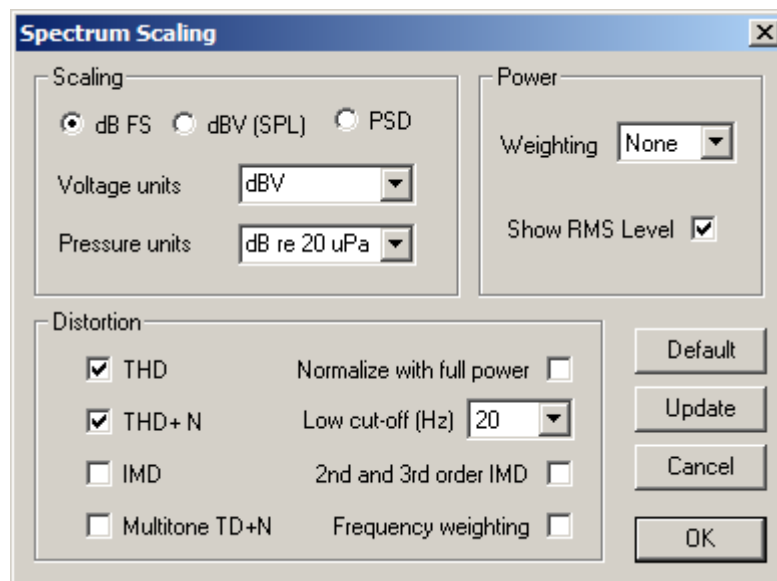

Figure 2.3 The spectrum scaling
7. By menu command **Setup->Spectrum Scaling** (), or by clicking right mouse button in graph title area, you get the dialog box '**Spectrum scaling**' (shown in Fig. 2.3). Use this dialog box to set (1) the magnitude scaling, (2) the power weighting and (3) distortion measures.